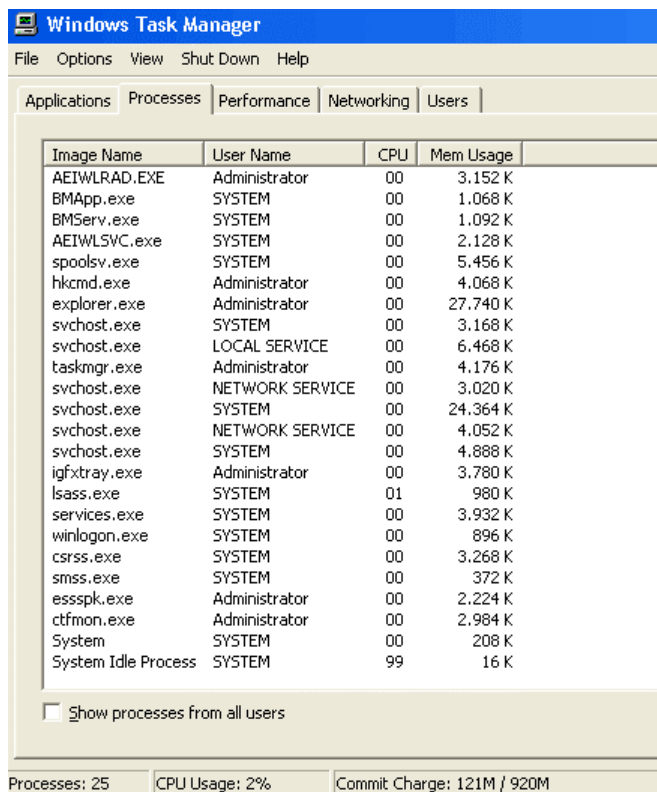

Fig. 3.2: Typical list of running processes on a windows system for DINEMO-II
- c) Kill as much processes as possible which are not listed in fig. 3.2.